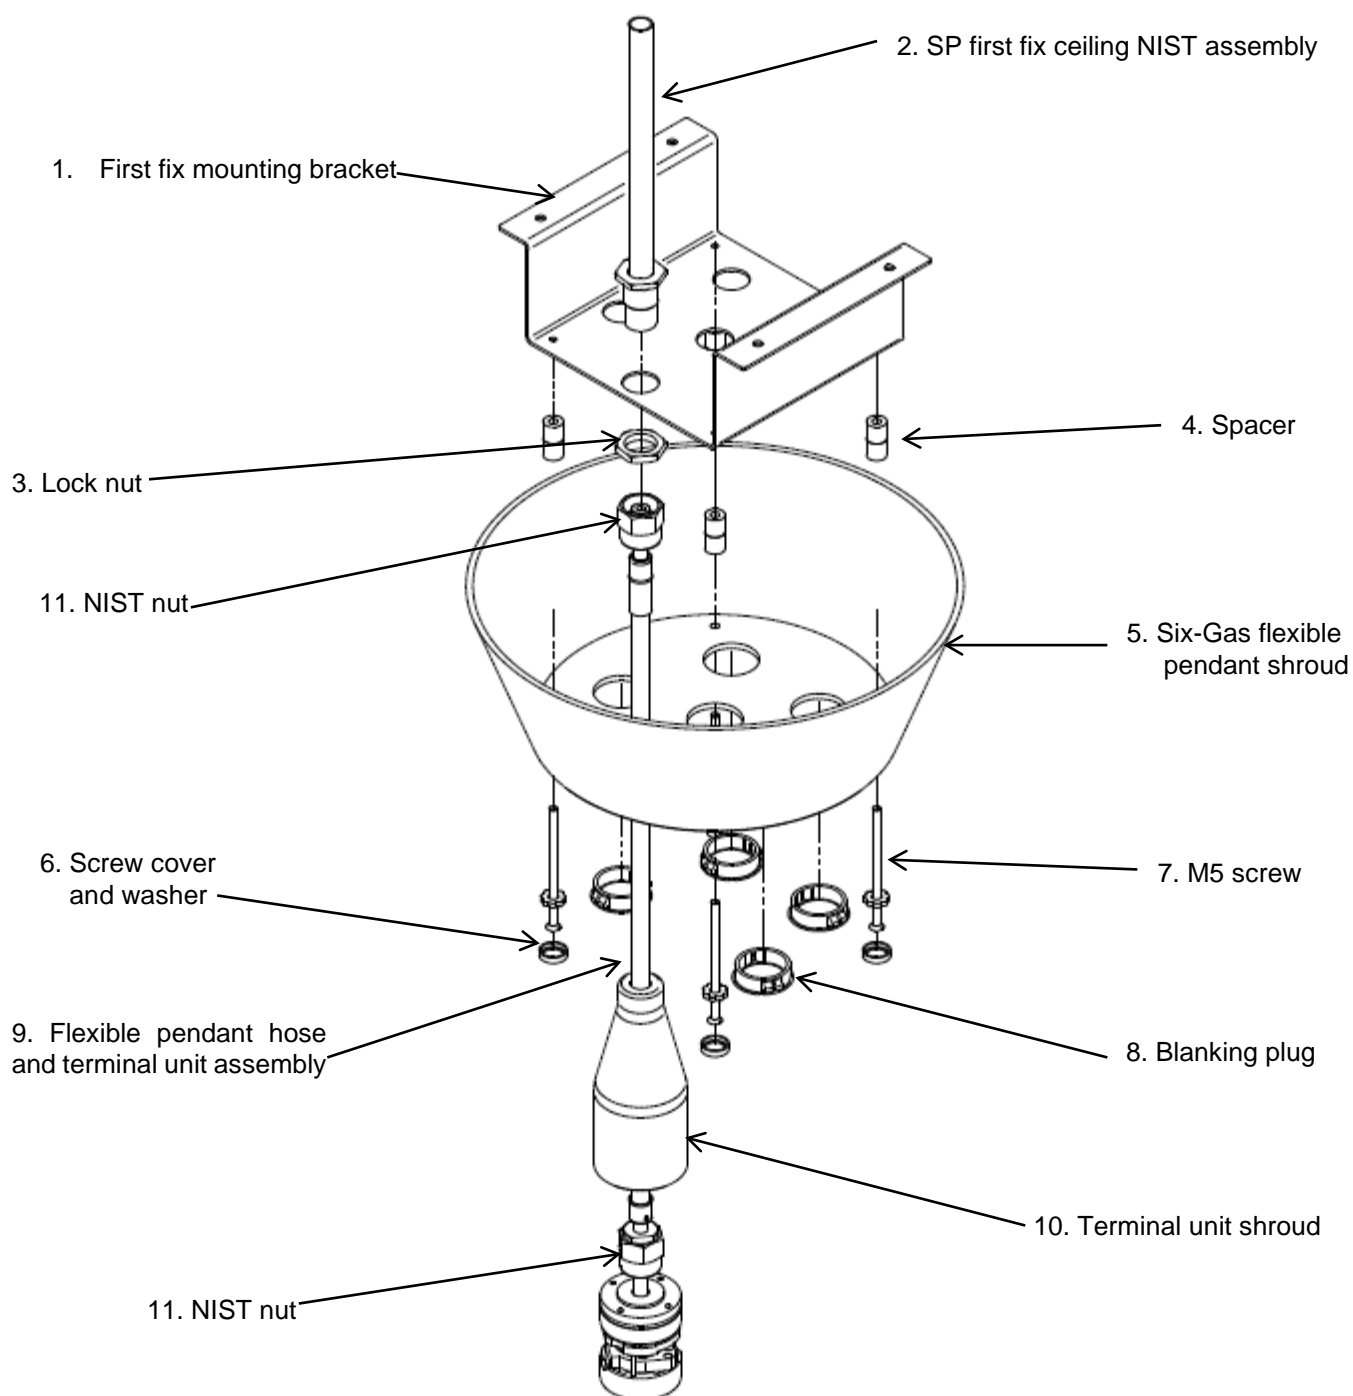
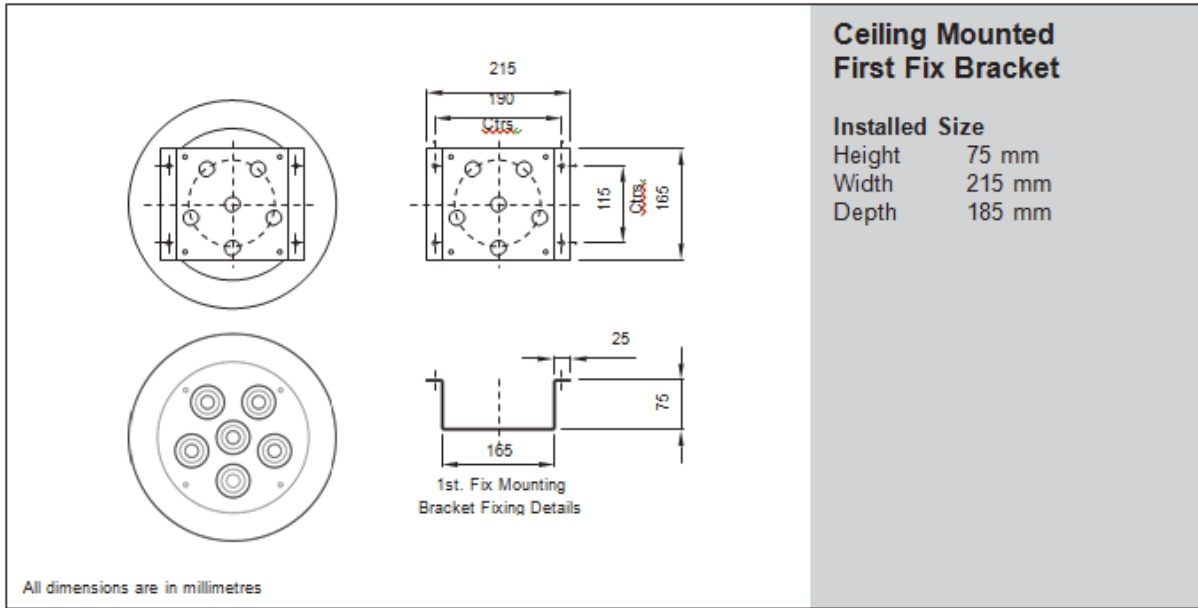

Figure 6-1 Flexible Pendant Exploded Layout
Figure 6-2 Flexible Pendant First Fix Bracket Installation Detail
Note: Numbers in brackets (#) refer to *Figure 6-1. Flexible Pendant Exploded Layout*, *Figure 6-2 and 6-3 Flexible Pendant Installation Detail* illustrate the complete flexible pendant installation detail.
1. Using 6 mm anchor bolts, or equivalent, secure the first fix bracket (1) to a support structure (ref. *Figure 6-2 Flexible Pendant First Fix Bracket Installation Detail*).
2. Remove the NIST blank nut, seal and lock nut (3) from each SP first fix ceiling NIST assembly (2). The first fix mounting bracket houses the first fix ceiling NIST assemblies which must be fed through the underside of the bracket (ref. *Figure 6-1 Flexible Pendant Exploded Layout*).